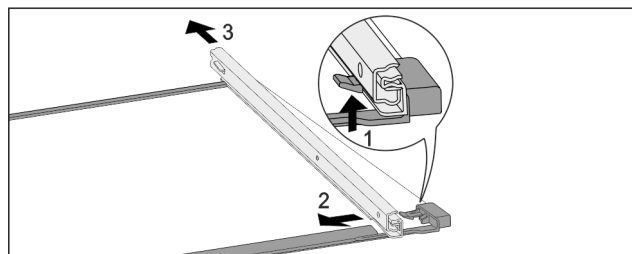

Fig. 263 Glass shelf with rails
- Push up front click-in hooks. Fig. 263 (1)
- Move the pull-out rails to the side Fig. 263 (2) and to the rear Fig. 263 (3).